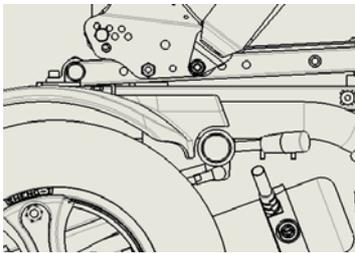

Figure 5-72
5.3.5.2 There are two evenly spaced holes for incremental adjustments which is in increments of 25.4 mm(1" ). The total range of adjustment is 50 mm. (Figure 5-72&5-73).